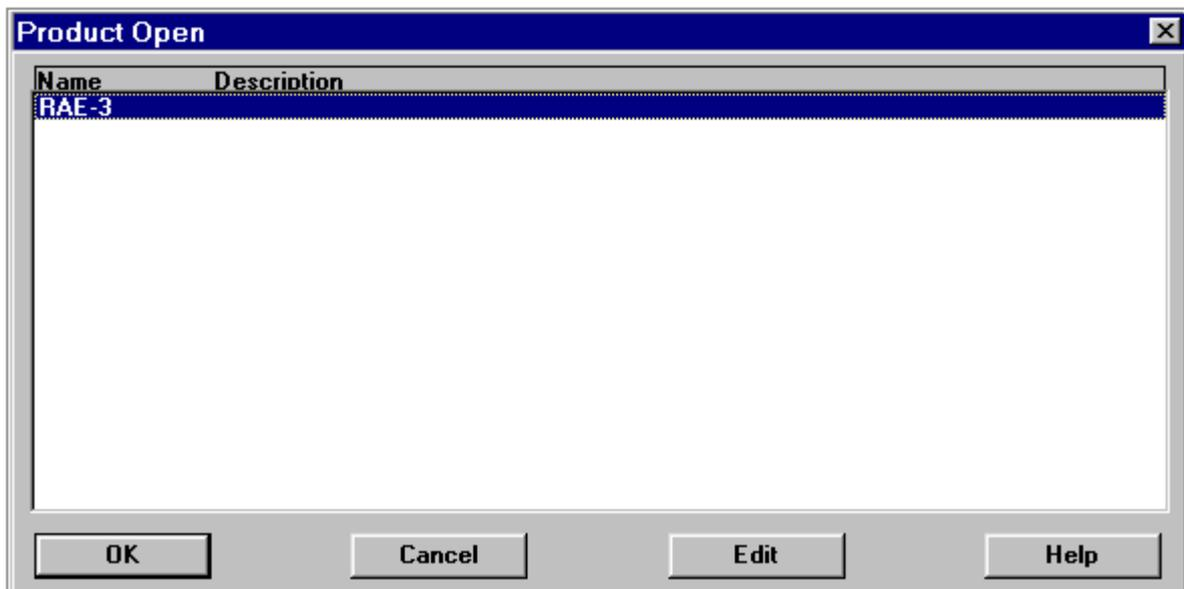

Figure 6. Product Open
5. Select Product → Open → RAE-3 (or if WinTesla is already running and N9210 is on Press "**F5**" to initialize connection (see Figure 6)